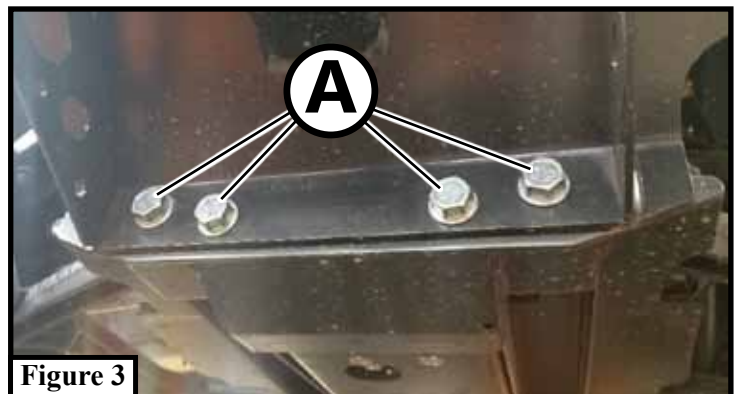

Figure 3
2. Remove bolts (A) shown in **Figure 3** and set aside to be re-installed in a later step.